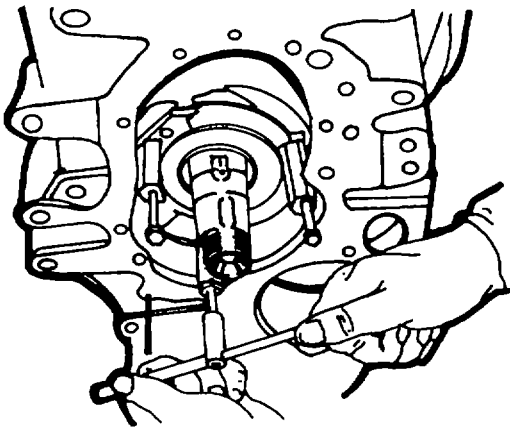

Figure 5-12. Removing Front End Shield
- e. Remove the screws in the front end shield and remove the end shield with the aid of special device No. 003-0671 (figure 5-12).